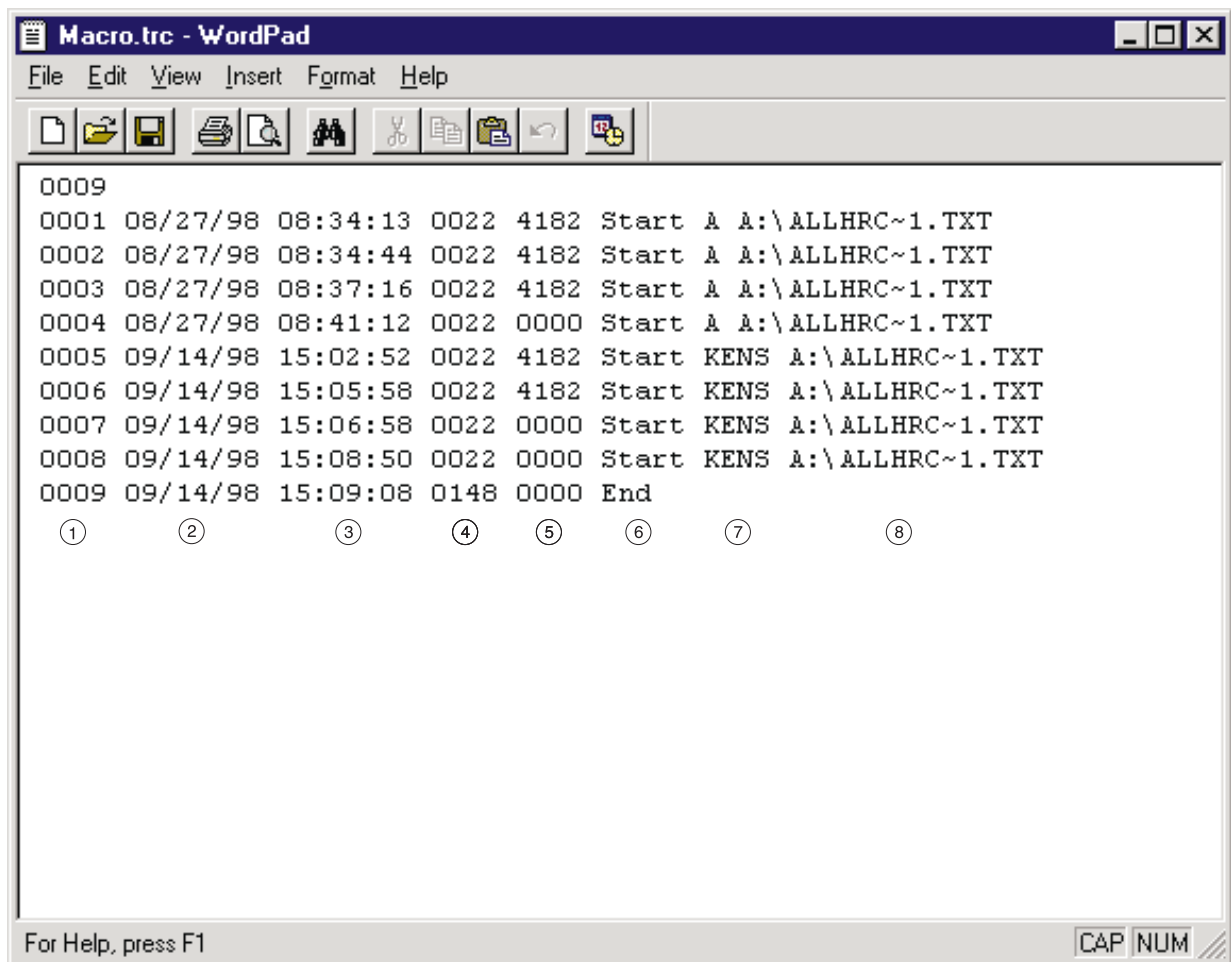

Figure 4.29 Macro Trace File
- The **Macro Trace File** option opens the text file (**macro.trc**) that traces the macros used (see Figure 4.29). Table 4.5 describes the contents of the macro trace file.